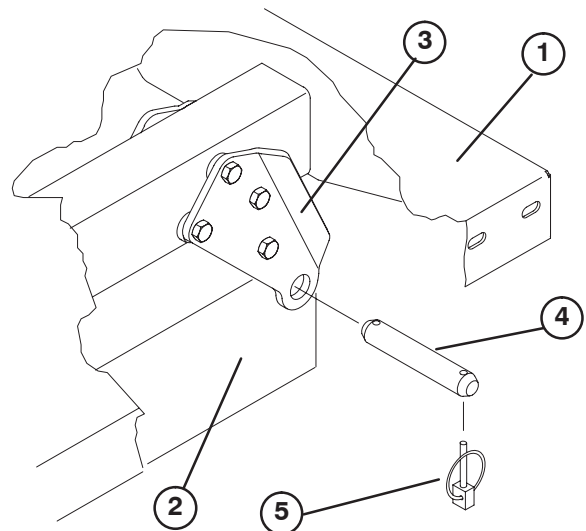

Figure 3
3. Remove clevis pins securing cylinder rod ends to bed mounting plates by pushing pins towards inside (Fig. 3).
4. Remove lynch pins and clevis pins securing pivot brackets to frame channels (Fig. 3).
Note: Assure rear pivot plates are bolted to the bed frame/channel so that lower end angles to the rear (Fig. 3).
2. Carefully set bed onto vehicle frame aligning rear bed pivot plate holes with holes in rear frame channel and install (2) clevis pins and lynch pins (Fig. 3).
3. With bed lowered, secure each cylinder rod end, to appropriate slots in bed mounting plates with clevis pin and lynch pin. Insert clevis pin from outside of bed with lynch pin toward outside (Fig. 3). Rear slots are for full bed installation and front slots are for 2/3 bed installation.